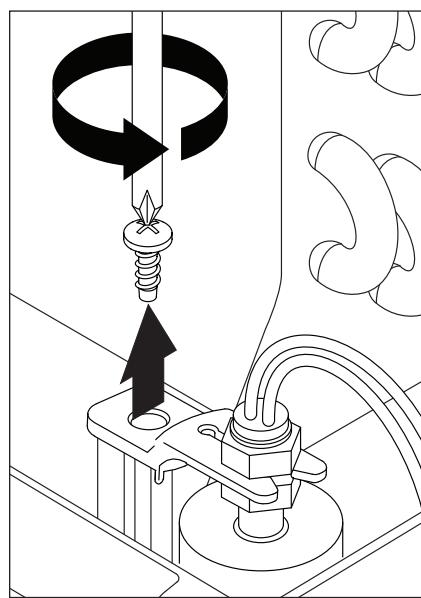

Figure 62 - Removing Condensate Switch
**NOTICE:** Condensate switch may be factory installed facing the opposite orientation. Position new condensate switch as shown in Figures 62 & 65.